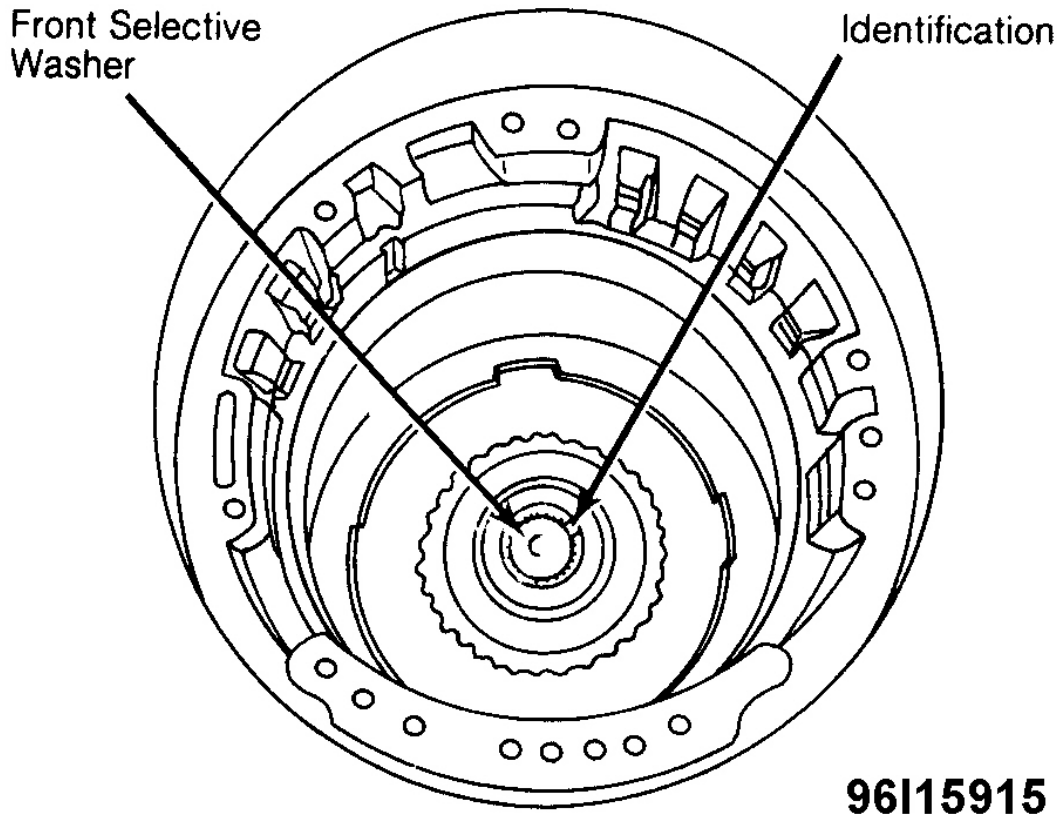

Fig. 38: Installing Front Selective Washer
5. Install output shaft-to-forward clutch shaft selective thrust washer into case and position washer. See **Fig. 38** .